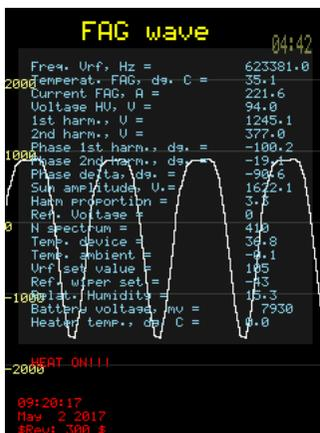

Figure 19. Oscillogram pattern of an asymmetric voltage generator with additional information on the operating mode of the device
FAG wave - this menu item displays the real signal received from high voltage electrodes (Figure 19).
- A yellow peak appears near the reference peak on the display, a light and sound indication of the detected explosive appears too (Figure 19)